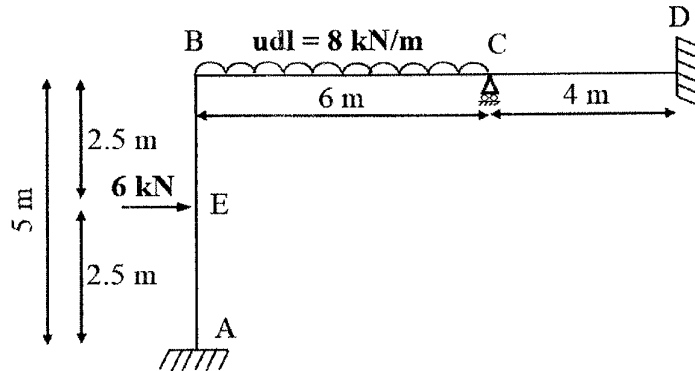

Figure Q1
- (i) Analyze the frame shown in **Figure Q1** using the **Moment Distribution method** and find the moments at A, B, C , and D joints. Flexural rigidity of AB is $2EI$ and that of BC and CD is EI . [12 Marks]